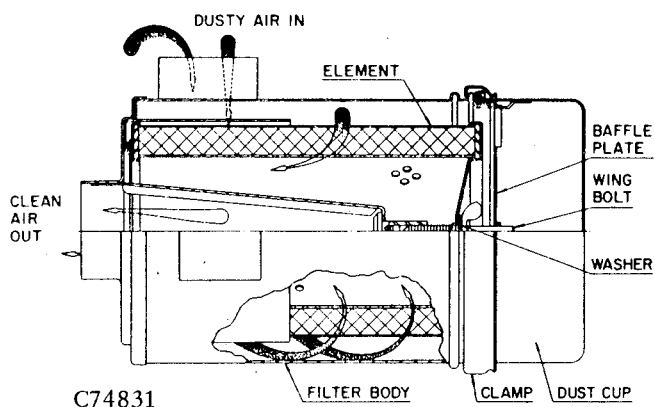

FIGURE 1-6. — AIR FILTER
**AIR FILTER** (Figure 1-6) furnished as standard equipment is a washable element two-stage dry type filter. The air filter must receive proper maintenance if maximum service is to be obtained from the unit. Establishing adequate and timely filter service is **MOST IMPORTANT**. To service the air filter, proceed as follows: